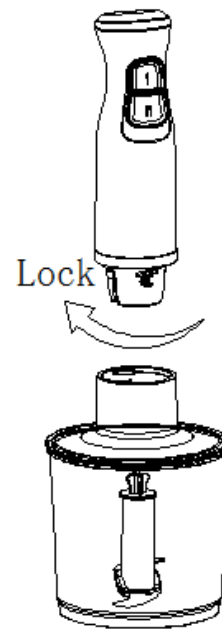

Fig:3
5. Insert the motor unit into the hole of the chopper lid, and turn in clockwise direction to lock. (See Fig.3)